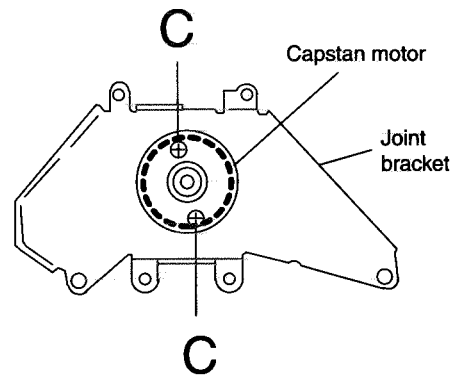

Fig.8
■ Removing the Capstan Motor (See Fig. 8)